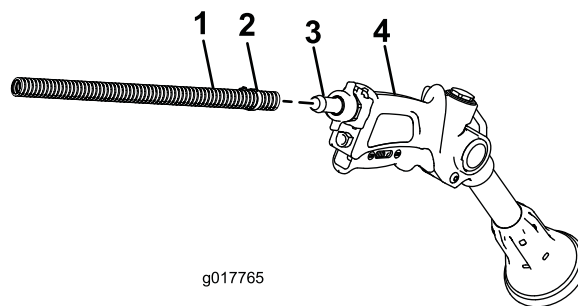

Figure 15
2. Connect the free end of the long hose to the fitting on the spray gun (Figure 15).